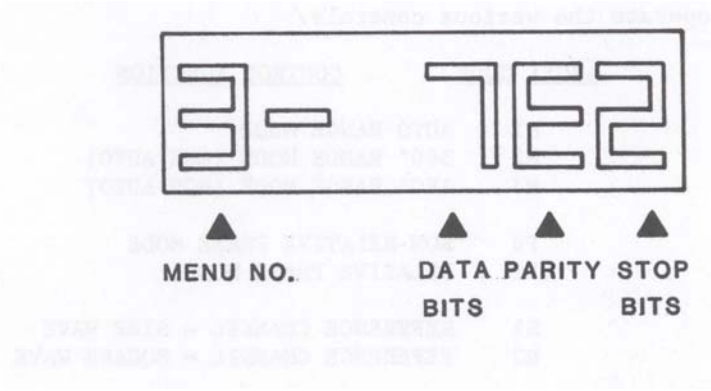

Figure 3.7 Parameter
Three parameters are chosen in Menu 3. The first character in the display represents the number of DATA BITS. The second character selects (E)ven, (O)dd or (N)o PARITY. The last character selects the number of STOP BITS (see Figure 3.7).